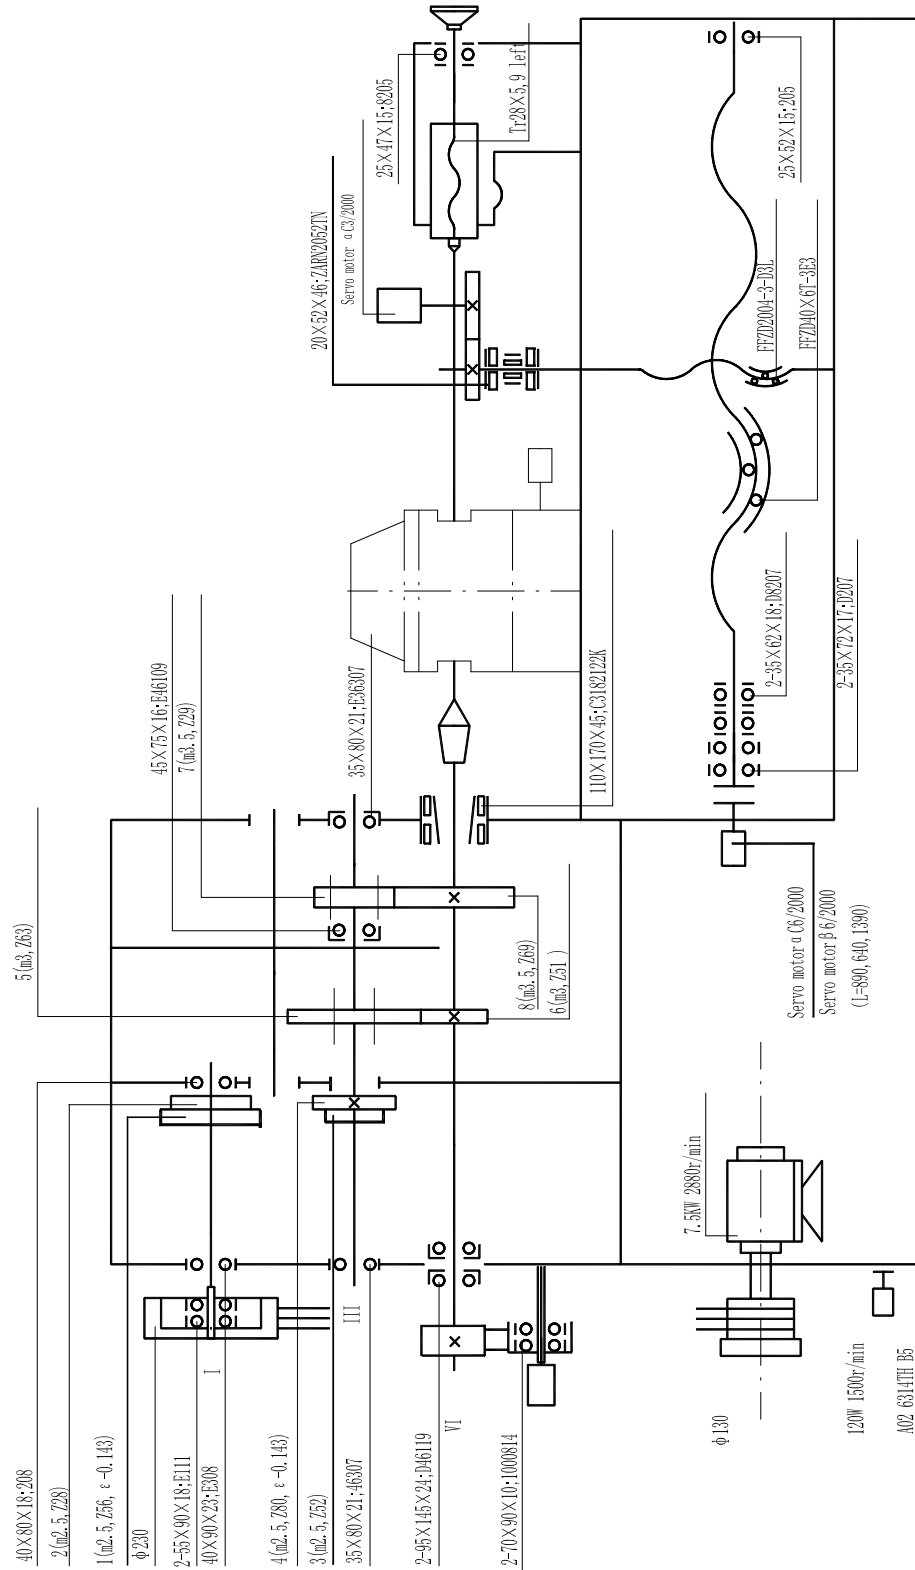

Fig. 3-5 Drawing of main transmission (hydraulic changing step)
- Hydraulic freq.-conversion (See Fig.3-5)